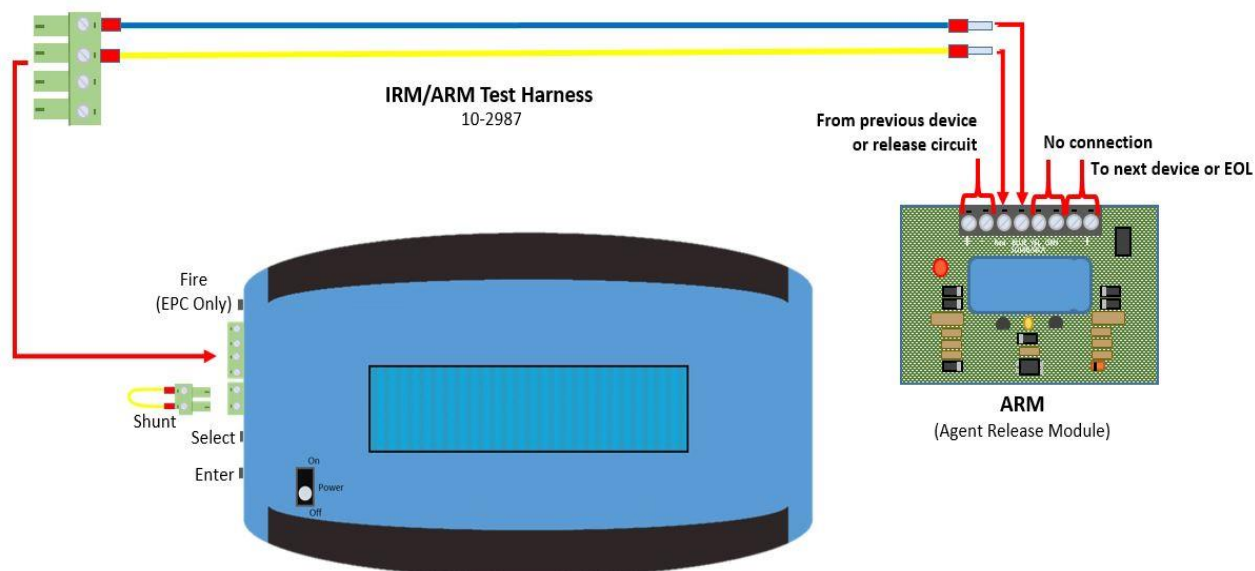

Figure 7 - Fire ARM Circuit Activation Current Test
2. Connect the Analyzer to the ARM, as shown in Figure 7 below.